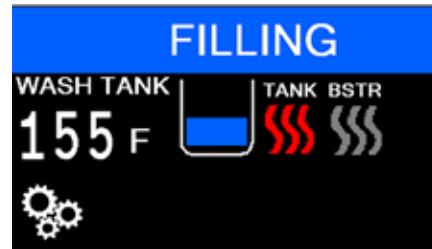
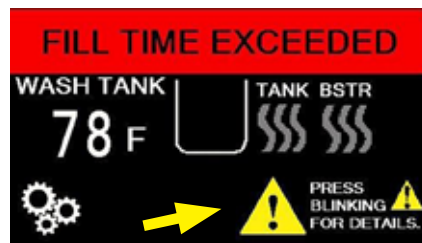

Fig. 99a - Normal FILLING operation screen
Fig. 99b - Fault screen with blinking icon
1. If the machine does not fill completely in the allotted time then "FILL TIME EXCEEDED" and a blinking fault icon appear, (Fig. 99a and Fig. 99b).